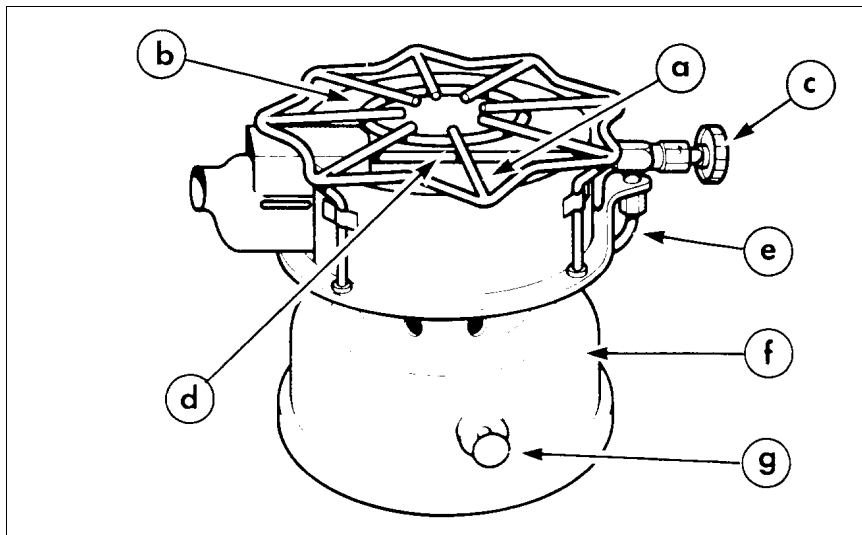

Figure 2-8 Stove C1B1
1. The main outer parts as shown in Figure 2-8 are: